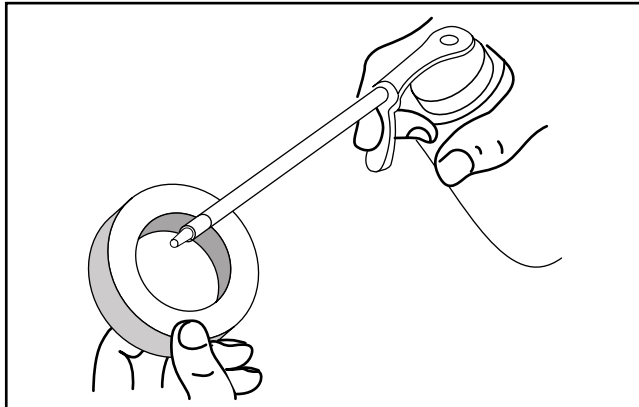

Fig. 26
4. Apply clean oil to the filter enough to saturate the filter (Fig. 26).